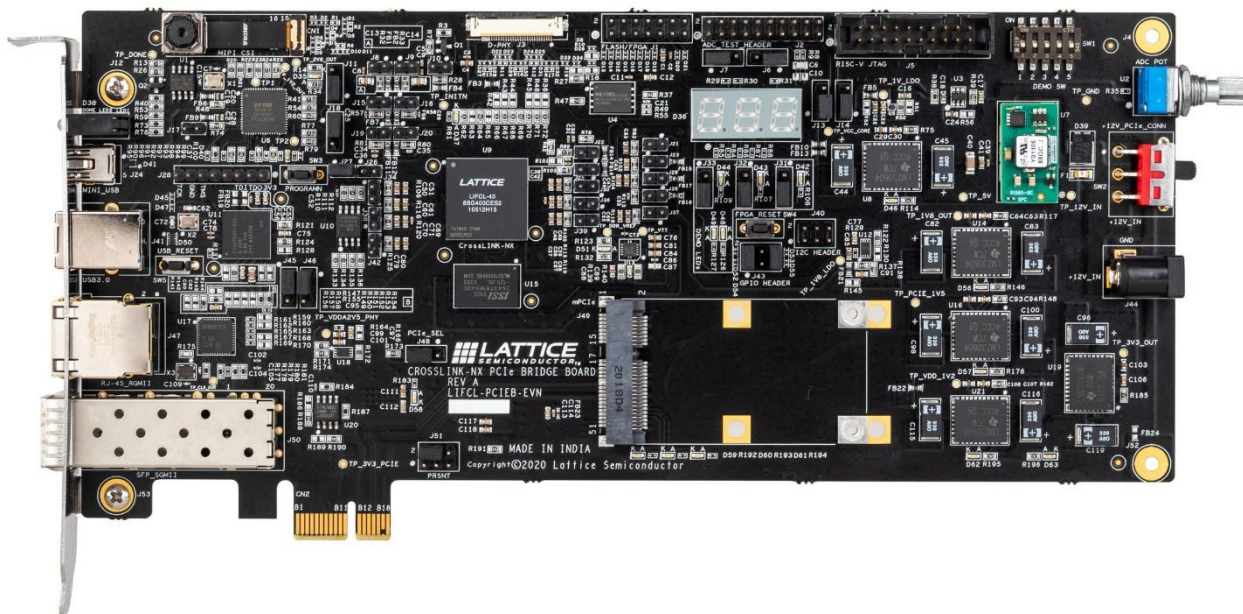
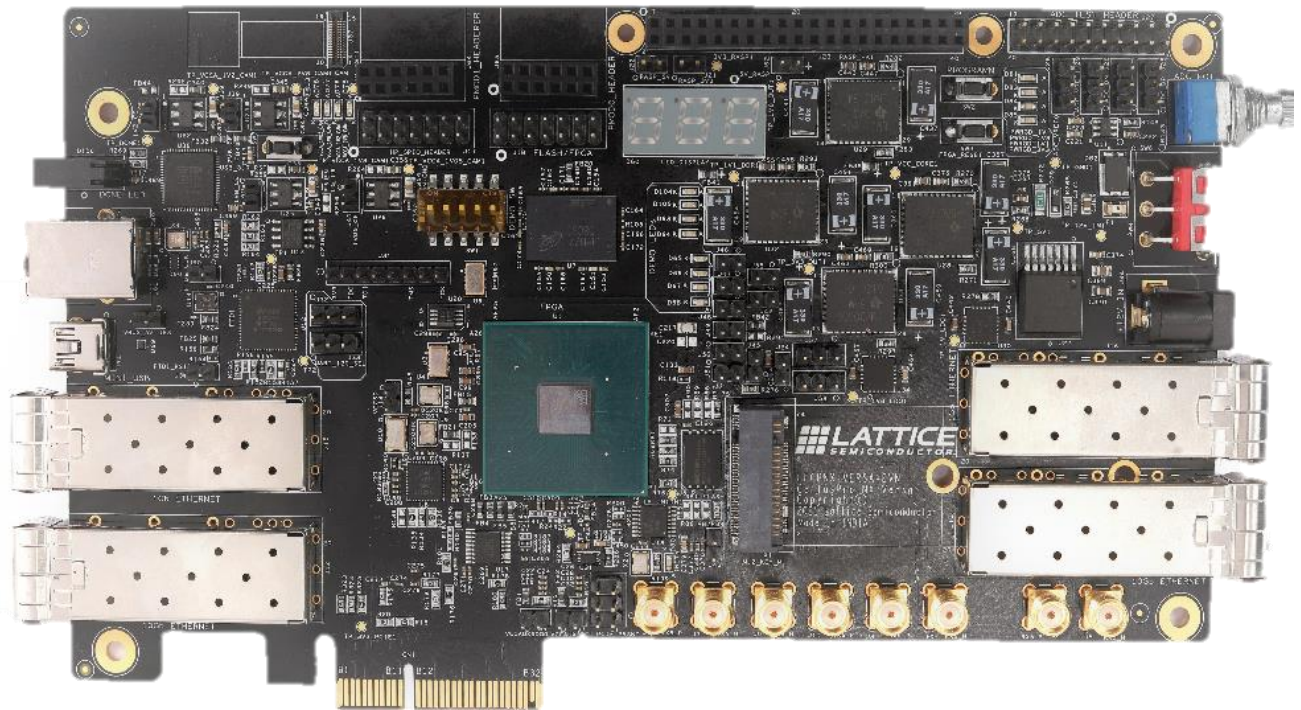

Figure 1.1. CrossLink-NX PCIe Bridge Board
Figure 1.2. CertusPro-NX Versa Board
- CrossLink-NX PCIe Bridge Board (Figure 1.1), or CertusPro-NX Versa Board (Figure 1.2)